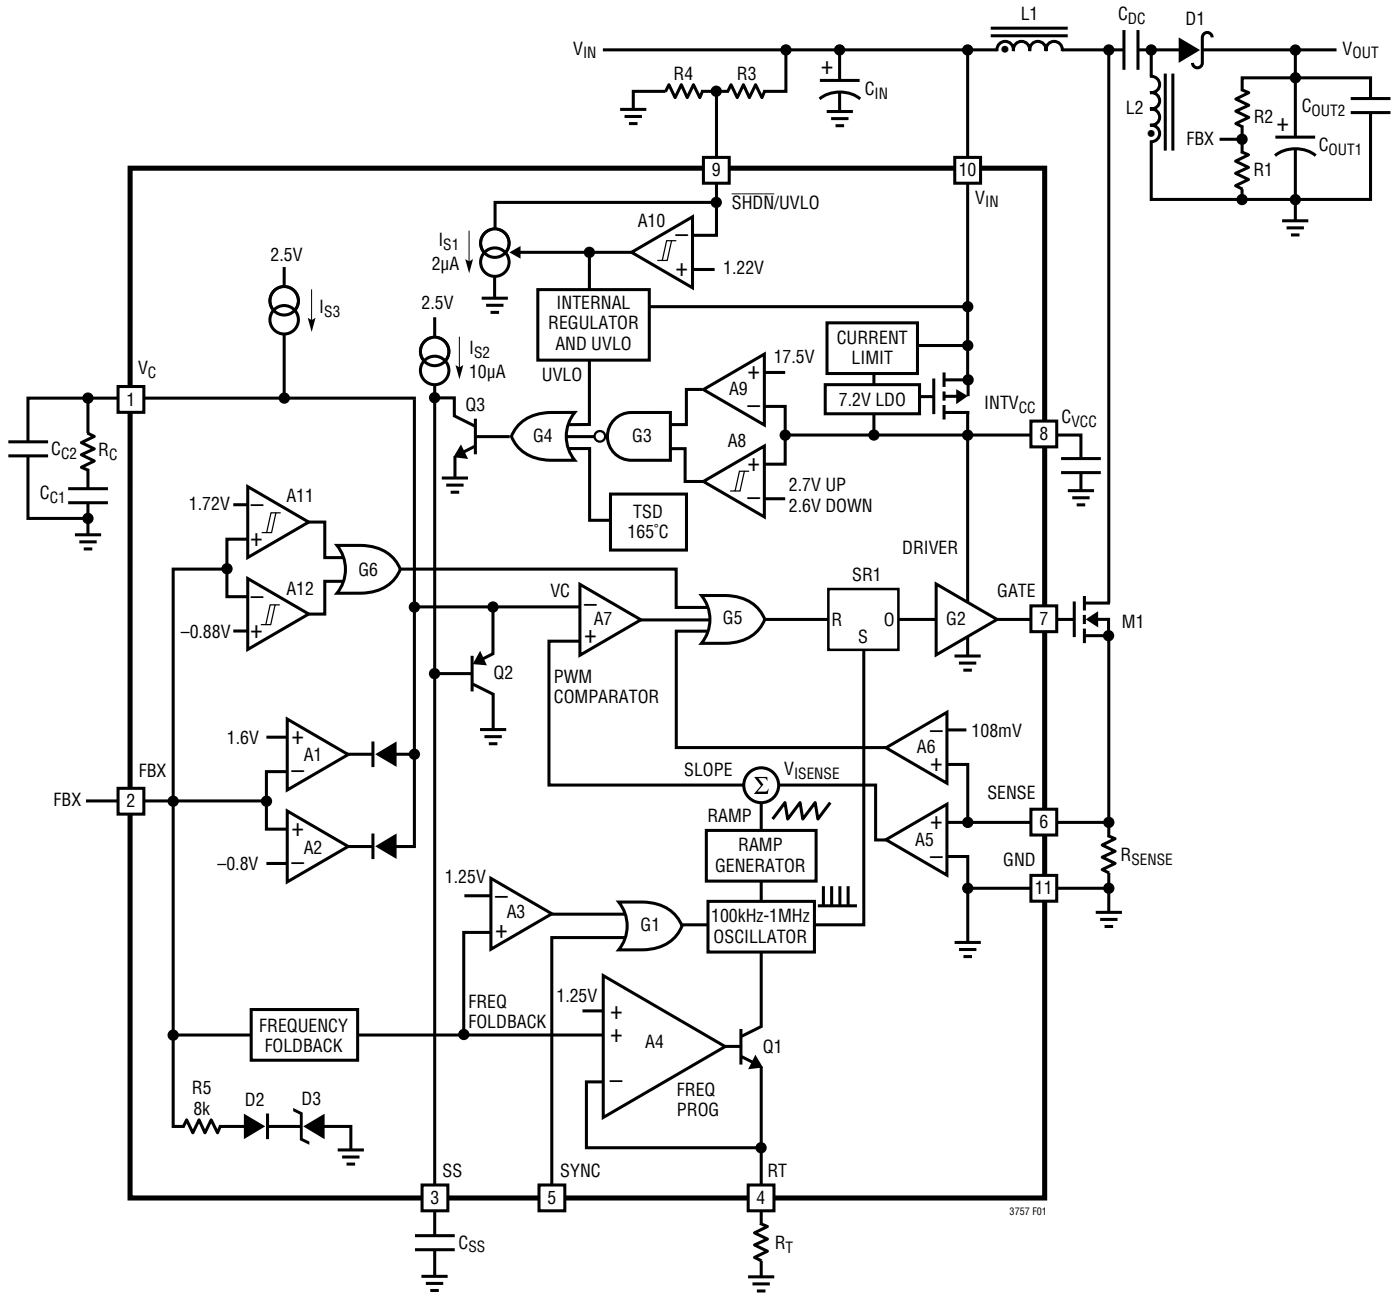

Figure 1. LT3757 Block Diagram Working as a SEPIC Converter
The LT3757 uses a fixed frequency, current mode control scheme to provide excellent line and load regulation. Operation can be best understood by referring to the Block Diagram in Figure 1.
The LT3757 is capable of generating either positive or negative output voltage with a single FBX pin. It can be configured as a boost, flyback or SEPIC converter to generate positive output voltage, or as an inverting converter to generate negative output voltage. When configured as a SEPIC converter, as shown in Figure 1, the FBX pin is pulled up to the internal bias voltage of 1.6V by a voltage divider (R1 and R2) connected from V_{OUT} to GND. Comparator A2 becomes inactive and comparator A1 performs the inverting amplification from FBX to V_C . When the LT3757 is in an inverting configuration, the FBX pin is pulled down to $-0.8V$ by a voltage divider connected from V_{OUT} to GND. Comparator A1 becomes inactive and comparator A2 performs the noninverting amplification from FBX to V_C .
The purpose of this current is to allow the user to program the rising hysteresis. The Block Diagram of the comparator and the external resistors is shown in Figure 1. The typical falling threshold voltage and rising threshold voltage can be calculated by the following equations:
An internal, low dropout (LDO) voltage regulator produces the 7.2V INTV_{CC} supply which powers the gate driver, as shown in Figure 1. If a low input voltage operation is expected (e.g., supplying power from a lithium-ion battery or a 3.3V logic supply), low threshold MOSFETs should be used. The LT3757 contains an undervoltage lockout comparator A8 and an overvoltage lockout comparator A9 for the INTV_{CC} supply. The INTV_{CC} undervoltage (UV) threshold is 2.7V (typical), with 100mV hysteresis, to ensure that the MOSFETs have sufficient gate drive voltage before turning on. The logic circuitry within the LT3757 is also powered from the internal INTV_{CC} supply.
The choice of operating frequency may be determined by on-chip power dissipation, otherwise it is a trade-off between efficiency and component size. Low frequency operation improves efficiency by reducing gate drive current and MOSFET and diode switching losses. However, lower frequency operation requires a physically larger inductor. Switching frequency also has implications for loop compensation. The LT3757 uses a constant-frequency architecture that can be programmed over a 100kHz to 1000kHz range with a single external resistor from the R_T pin to ground, as shown in Figure 1. The R_T pin must have an external resistor to GND for proper operation of the LT3757. A table for selecting the value of R_T for a given operating frequency is shown in Table 1.
The output voltage (V_{OUT}) is set by a resistor divider, as shown in Figure 1. The positive and negative V_{OUT} are set by the following equations:
In the applications where V_{OUT} is pulled up by an external positive power supply, the FBX pin is also pulled up through the R2 and R1 network. Make sure the FBX does not exceed its absolute maximum rating (6V). The R5, D2, and D3 in Figure 1 provide a resistive clamp in the positive direction. To ensure FBX is lower than 6V, choose sufficiently large R1 and R2 to meet the following condition:
The LT3757 addresses this mechanism with the SS pin. As shown in Figure 1, the SS pin reduces the power MOSFET current by pulling down the V_C pin through Q2. In this way the SS allows the output capacitor to charge gradually toward its final value while limiting the start-up peak currents. The typical start-up waveforms are shown in the Typical Performance Characteristics section. The inductor current I_L slewing rate is limited by the soft-start function.
The optimum values depend on the converter topology, the component values and the operating conditions (including the input voltage, load current, etc.). To compensate the feedback loop of the LT3757/LT3757A, a series resistor-capacitor network is usually connected from the V_C pin to GND. Figure 1 shows the typical V_C compensation network. For most applications, the capacitor should be in the range of 470pF to 22nF, and the resistor should be in the range of 5k to 50k. A small capacitor is often connected in parallel with the RC compensation network to attenuate the V_C voltage ripple induced from the output voltage ripple through the internal error amplifier. The parallel capacitor usually ranges in value from 10pF to 100pF. A practical approach to design the compensation network is to start with one of the circuits in this data sheet that is similar to your application, and tune the compensation network to optimize the performance. Stability should then be checked across all operating conditions, including load current, input voltage and temperature.